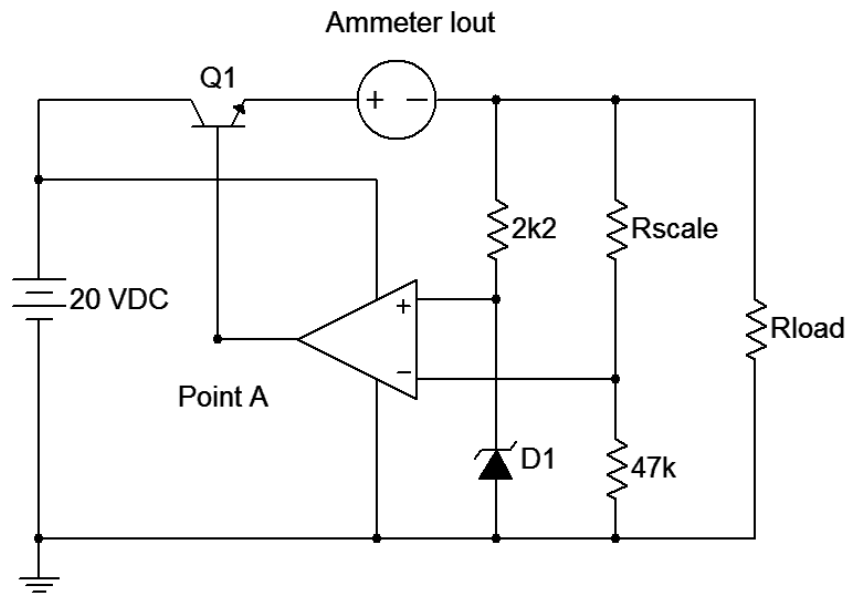

Figure 1
3. Connect the circuit of Figure 1 using an R_{scale} of 47k Ω , and an R_{load} of 100k Ω .